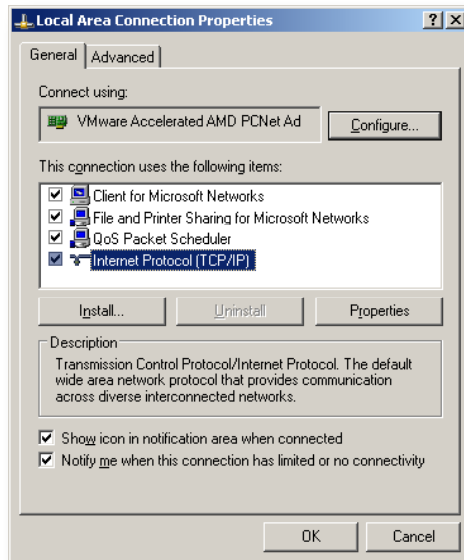

Fig. A-5 Configuring a network connection
3. Open the context menu for the desired network connection by clicking with the right mouse button. Select the Properties menu item. The screen shown in Fig. A-5 should now appear.